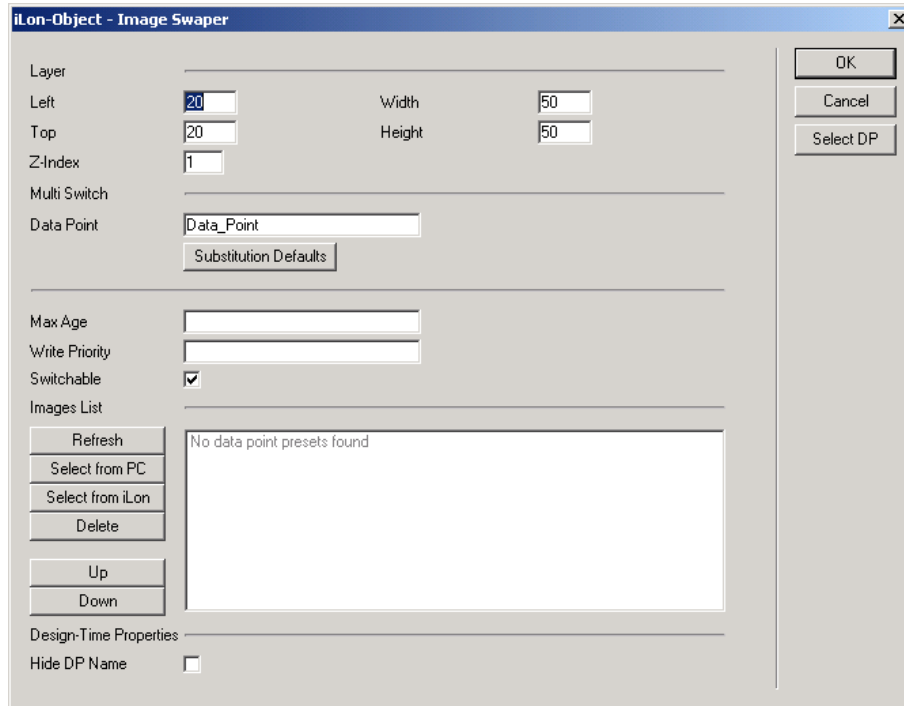

Figure 13.41 Image Swapper Dialog
1. Open a draft of a Web page, click the *iLON* button, and then select **Image Swapper**. An icon is inserted on the Web page where the images will be displayed, and the dialog shown in Figure 13.41 opens.